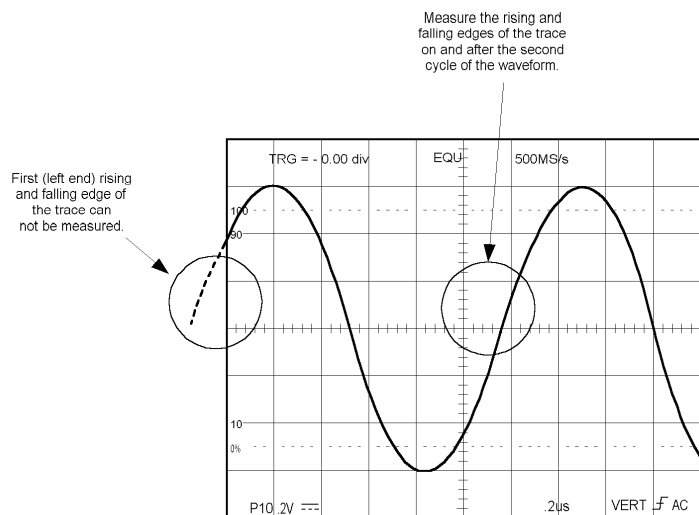

Figure 5-16
5. Read the measurement value on the screen. Typical measurement readouts and applications are shown in Figure 5-16. The measurement values are automatically controlled by the VOLTS/DIV and TIME/DIV control settings.